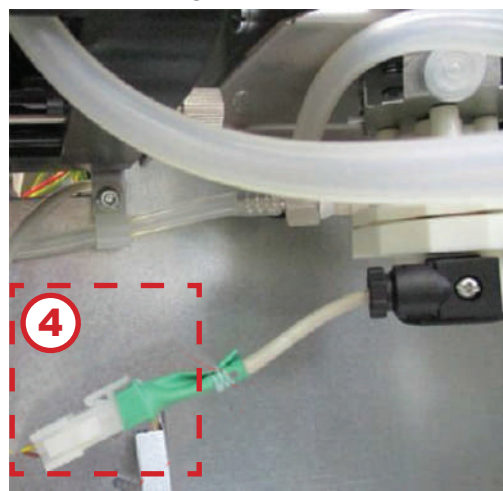

Fig.11.7
5. Disconnect the connector (4) (see fig. 11.7).